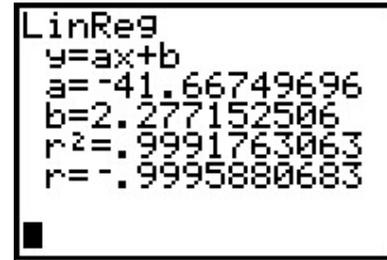

Fig.15
4. The equation for the linear dependence is shown (Fig.15). The meaning of the displayed coefficients a and b comes from the eq. 8 while the r is the correlation coefficient of the linear regression. The established equation is stored as the Y_1 function variable.